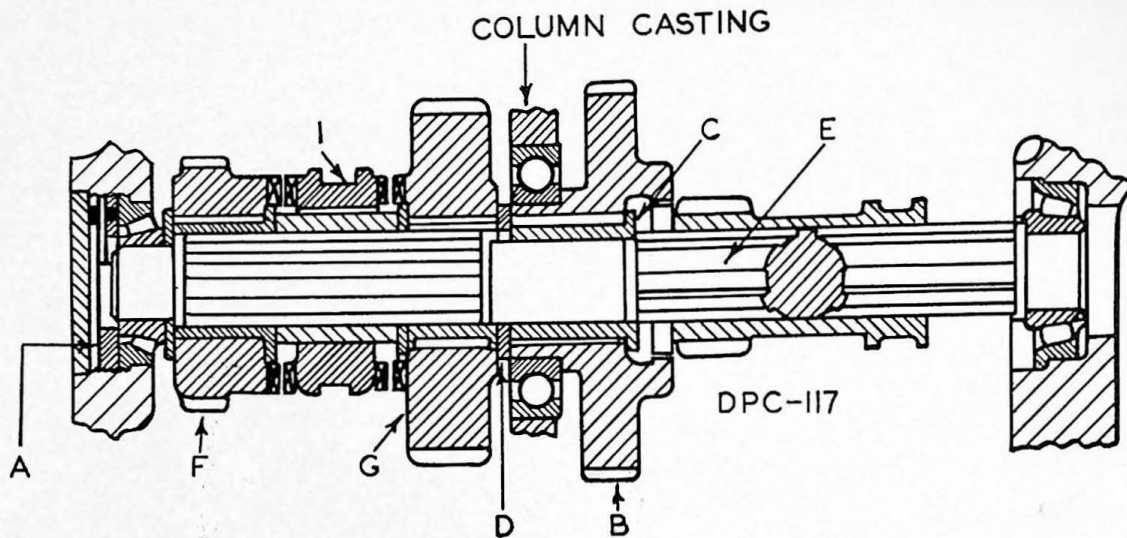

FIGURE 26
6. Tap front end of shaft lightly until face of large helical gear "B" is against column casting. See Fig. 26. Now tap shaft at rear. This will move roller bearing on rear of shaft far enough to permit keys in shaft to disengage keyways in face of flange of sleeve "C". Sleeve "C" must be turned to line up keyways in hole of sleeve with keys on shaft, so that sleeve will slide over shaft. Thrust of roller bearing adjustment is through the length of sleeve, keys, etc.